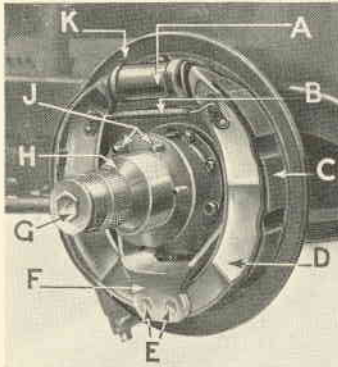

Fig. 21.
To remove the shoes, release the brake return springs (see "B," Fig. 21), then remove the nuts securing the brake shoe fulcrums "E" which allow the fulcrums themselves to be withdrawn. The shoes can then be pulled clear of the hydraulic braking cylinder "A." Take notice of the lining fixing before removing and endeavour to fix similarly. It is essential that the new lining should fit firmly on the shoe and there should be no sign of bulging.
Rear Wheel Brake, with wheel and brake drum removed. The details are similar to the Front Brake, shown in Fig. 21, with the exception of (L), which are the toggle arms operated by the Hand Brake Lever. (M) is the armoured hydraulic brake cable.
The front hubs are fitted with roller bearings designed to take both radial and thrust loads. With the special type of bearing used no adjustment is necessary. The lubrication is provided by removing the inner hub end caps (G) Fig. 21, **and the hubs should be kept about half full with one of the lubricants recommended on the Lubrication Diagram.** See No. 13. The supply of grease should be replenished when required, usually about every 3,000 miles. Under no circumstances must the hubs be more than half full.